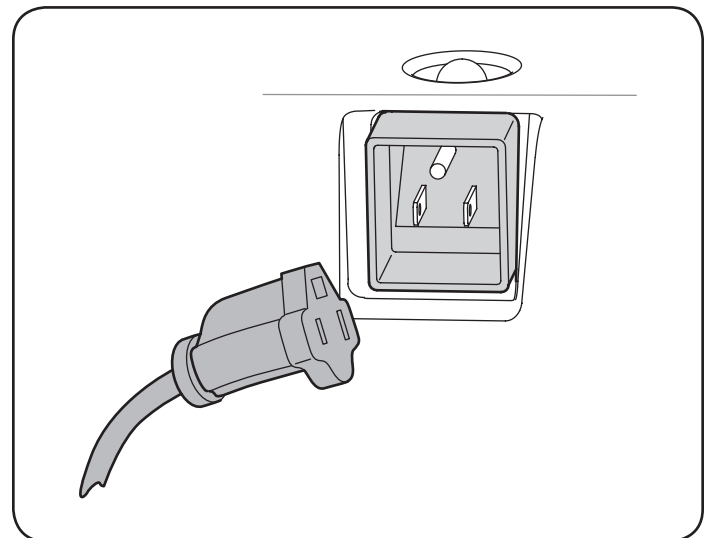

Figure 15
1. Plug the extension cord into the outlet located on the engine's surface. Plug the other end of extension cord into a three-prong 120-volt, grounded, AC outlet in a well-ventilated area See Figure 15.